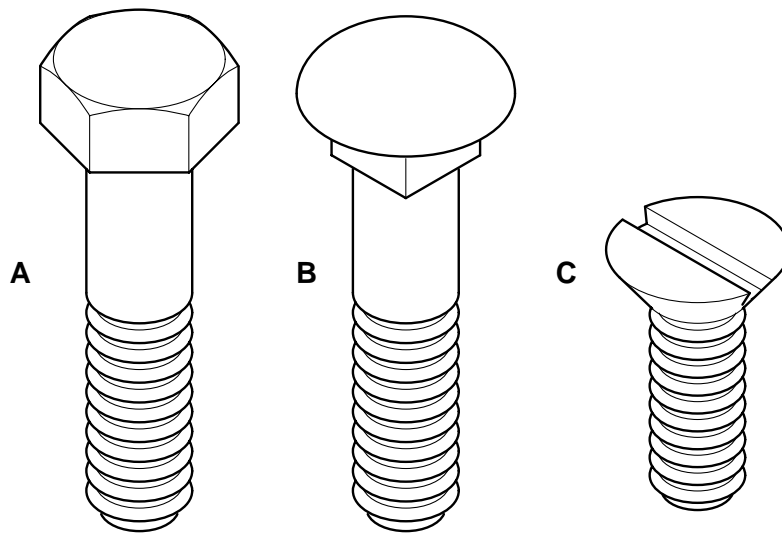

Fig. 6
12 Fig. 6 shows a range of different fixings used in design work.
- (b) The fixings shown in Fig. 6 may be used with **nuts**.
- (d) Explain the purpose of **plain washers** when used, with nuts, on the fixings of the type shown in Fig. 6. [3]